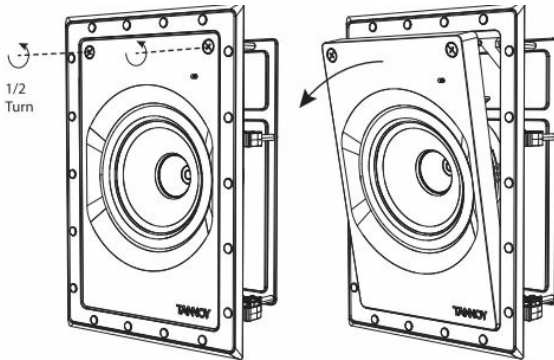

Fig. 4. Removing the Loudspeaker Assembly from the Frame
1. The loudspeaker baffle assembly is shipped inside the frame, and it should be removed as follows: Undo the two screws less than half a turn and then tilt the assembly out of the frame (Fig. 4). Store it in a safe dry place until it is ready to be installed.